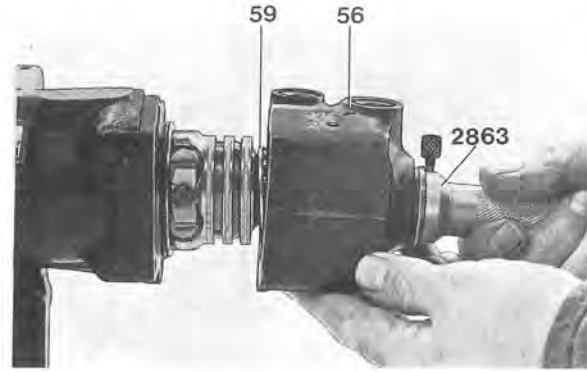

Fig. 6-83. Fitting valve housing
11. Tension out the sealing ring (54) with tool 2863. Place the bearing (59) in position. Fit the valve housing (56), see Fig. 6-83. The tightening torque for the bolts (50 and 52) is 34 Nm (25 lbft).